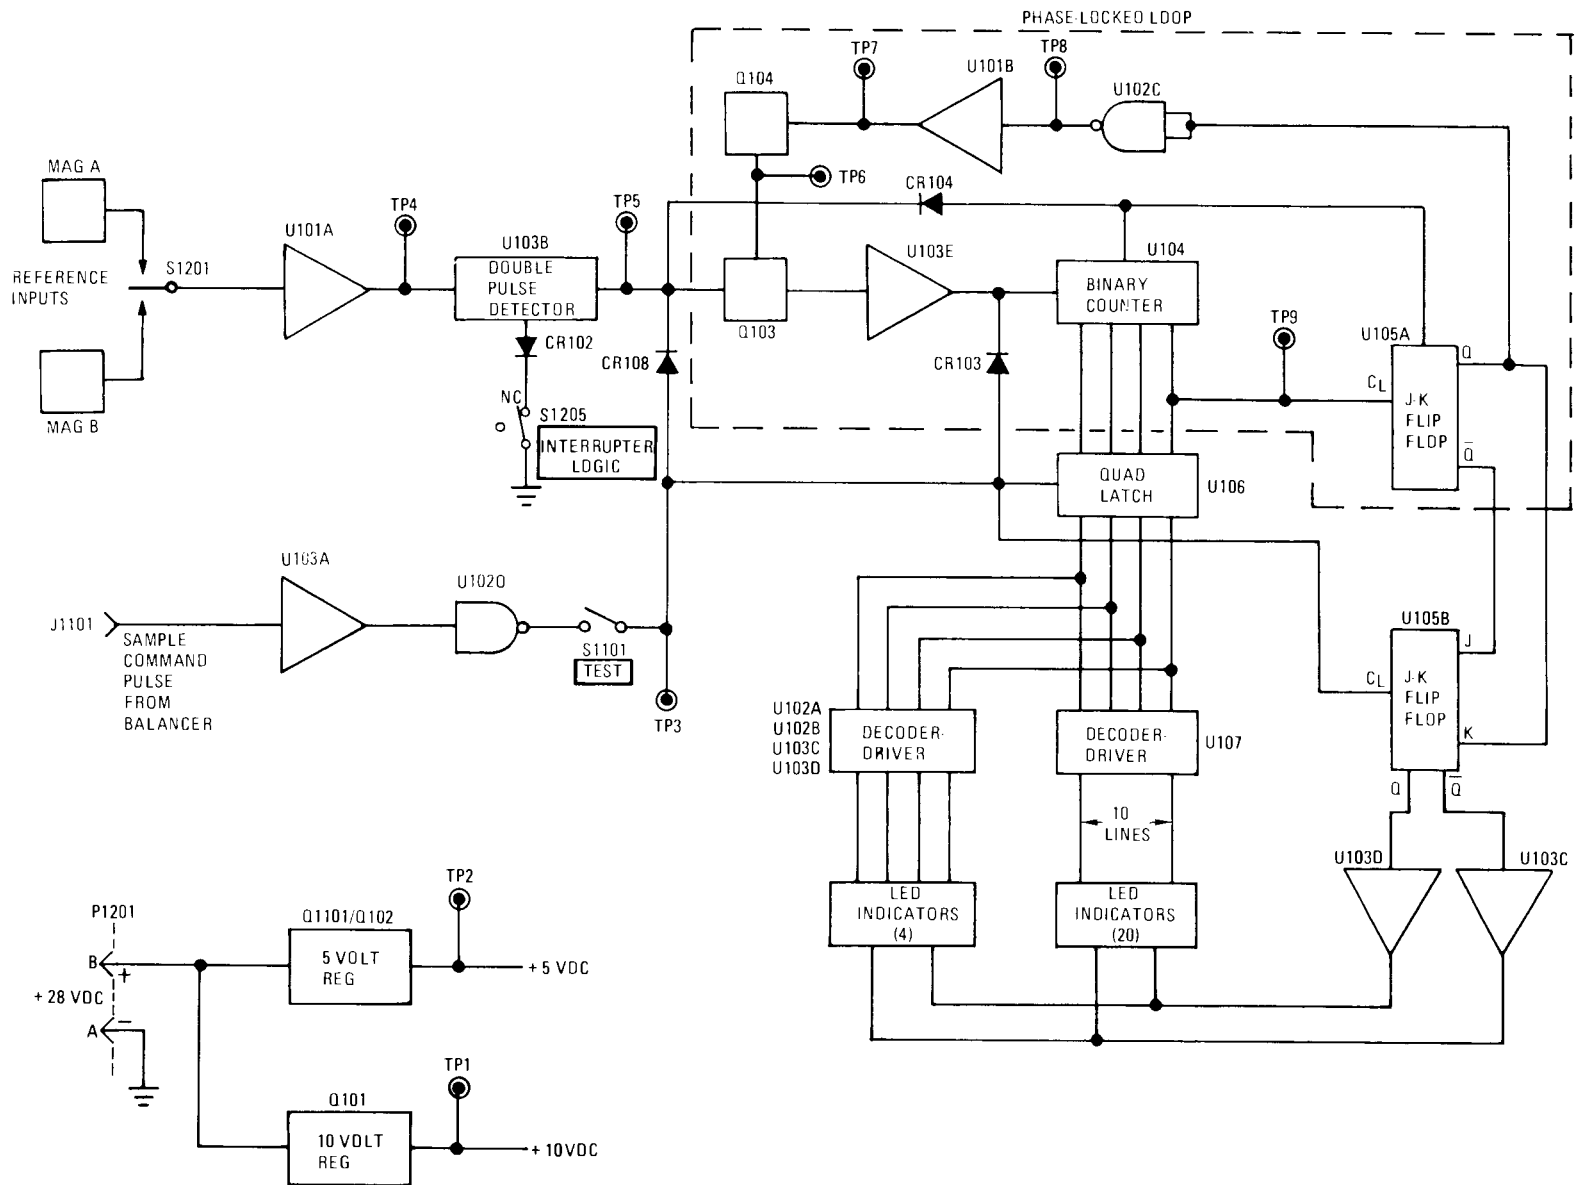

Figure 4-2. Phazor Simplified Diagram
**4-6. Phazor Section of Balancer.** The electronics for the Phazor (fig. 4-2 and FO-2) are contained on Phazor Circuit Card B4193.
b. The Phazor power supply provides a regulated +5 vdc and +10 vdc for the Phazor circuits. The +5 vdc is provided by series regulator transistors Q1101 and Q102 (fig. 4-2). The regulated +10 vdc is provided by constant-current source transistor Q101 and zener diode CR110.